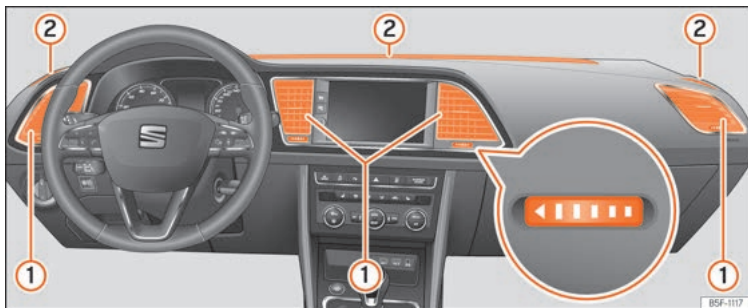

Fig. 198 On the dash panel air vents.
To ensure proper heating, cooling and ventilation in the vehicle interior, air vents **» Fig. 198 ①** should remain open.